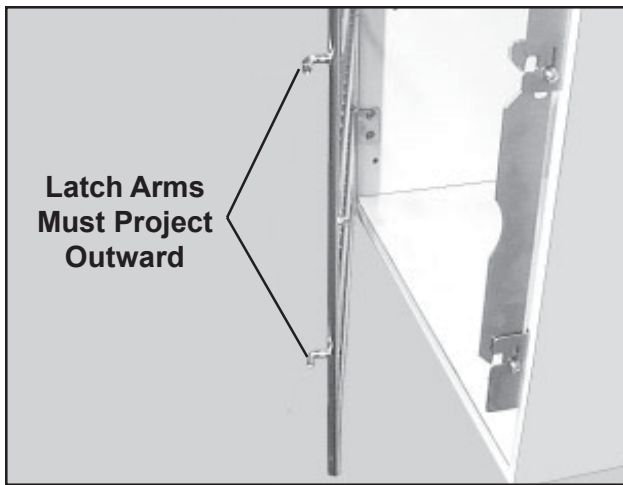

Figure 41. Latch Arms on Door
5. Orient the new door so that the latch arms project outwards (Figure 41). If these arms point inward, the door will not close or latch properly.